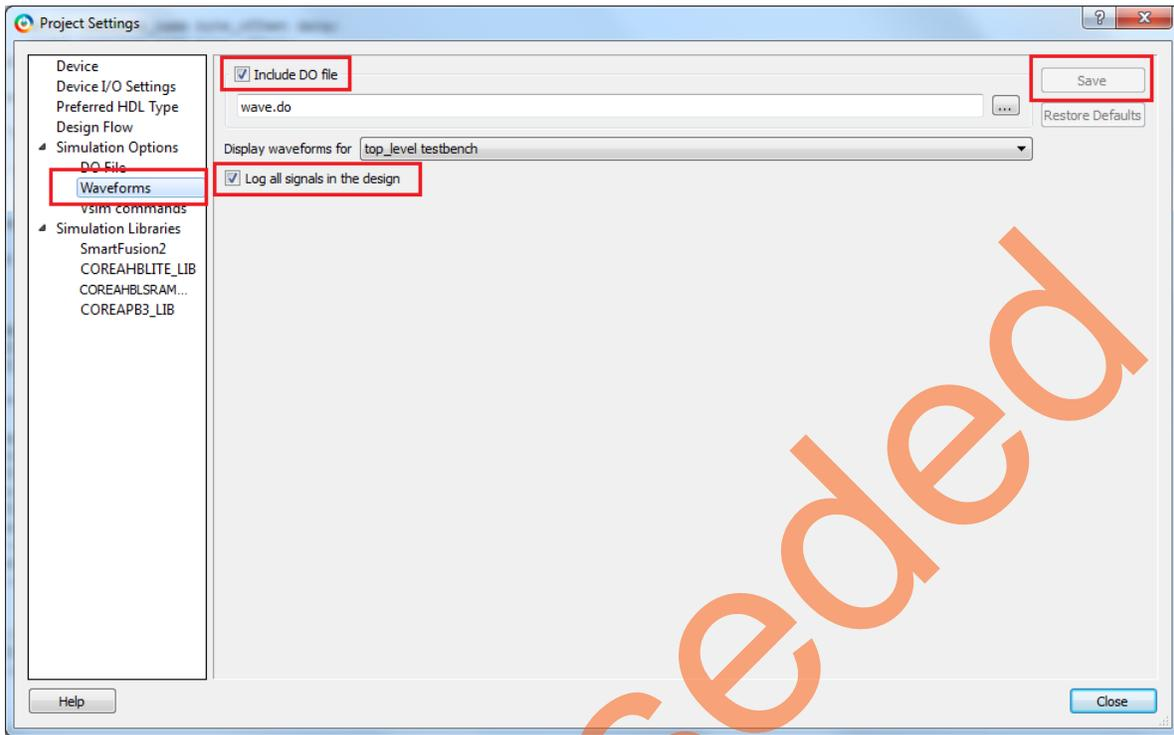

Figure 28 • Project Settings – Waveforms
5. Select **Waveforms** under **Simulation Options** as shown in Figure 28 on page 26: